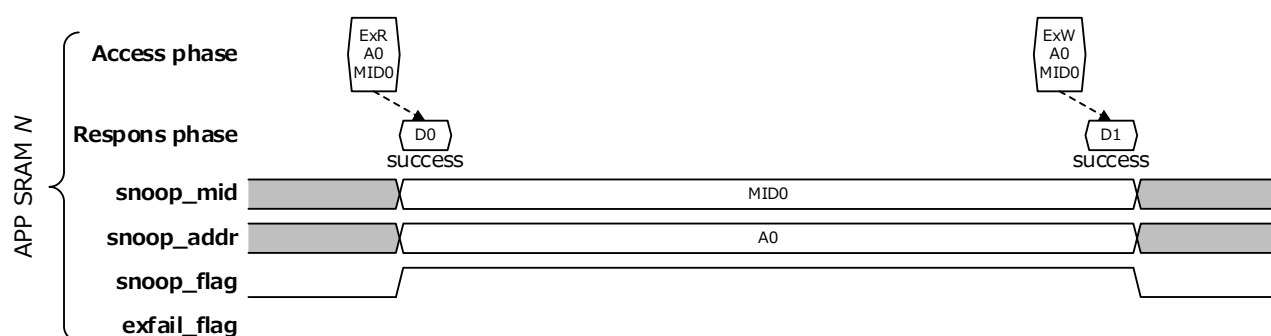

Figure APP-111 Success Case 1 of Exclusive Access
- The snooping is released after an exclusive write (ExW) is issued from the master obtaining exclusive access right to the target address to snoop. At this time, if exclusion process to the target address to snoop has been successful, “success” will be returned. (refer to Figure APP-111)